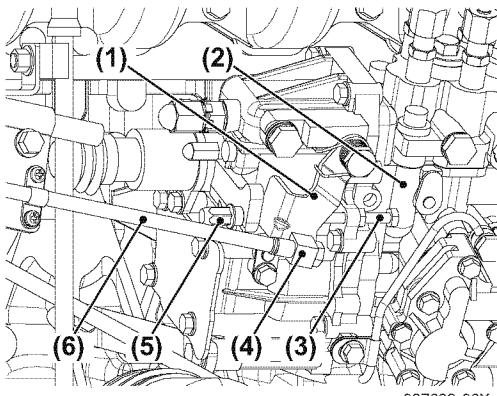

Figure 5
- To adjust, loosen the adjustment screw (**Figure 5, (4)**) or cable fitting (**Figure 6, (3)**) for the remote control cable on the engine side and adjust.
- Adjust the high-speed stop (**Figure 5, (5)**) or (**Figure 6, (6)**) position first and then adjust the low-speed stop (**Figure 5, (3)**) or (**Figure 6, (4)**), with the adjustment screw on the remote control lever (**Figure 5, (1)**) or (**Figure 6, (5)**).